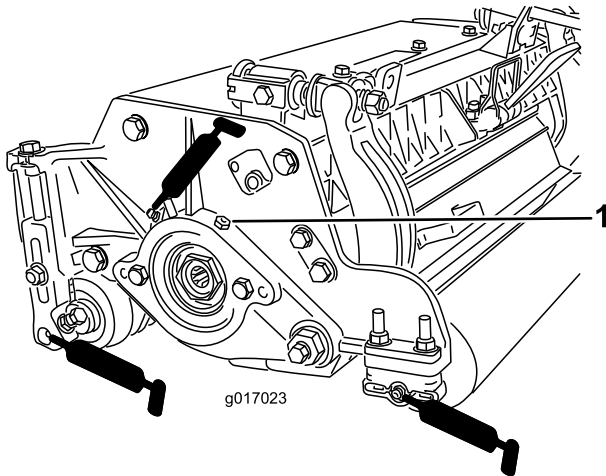

Figure 24
Each cutting unit has (6) grease fittings (Figure 24) that must be lubricated regularly with No. 2 General Purpose Lithium Base Grease.